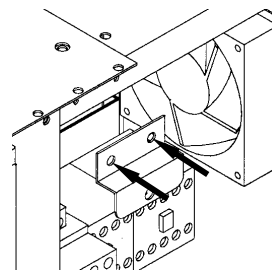

Figure 4
- g. Remove the 2 front top side panel support brackets, 2 screws each. (Figure 4)
- Replace side cover support brackets (Figure 4) at top front of bottom unit and bottom front of top unit, using original screws.